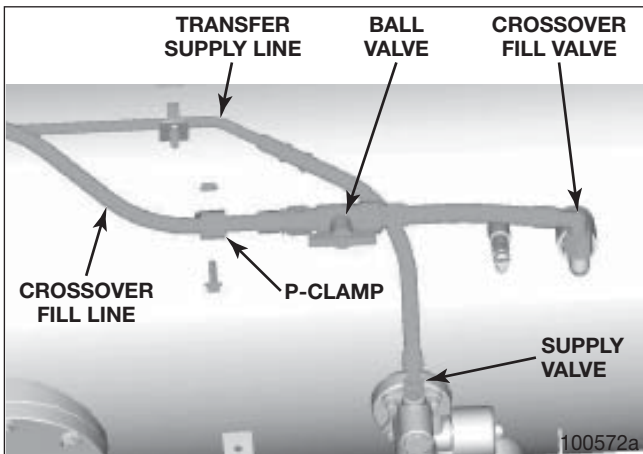

Figure 79 – RH Tank Crossover and Transfer Lines
10. Disconnect the ball valve. Figure 79.